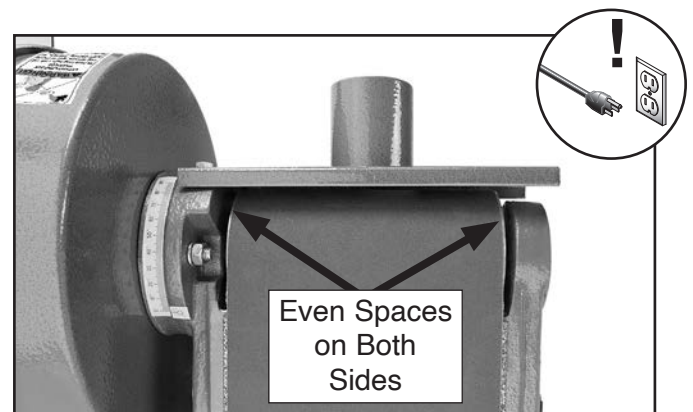

Figure 47. Example of sanding belt centered on main roller.
4. Adjust the tracking with the tracking control knob and continue to rotate the belt by hand until the sanding belt is centered on the main roller, as shown in **Figure 47**.
5. Loosen the lock nut on the tracking control knob, and carefully adjust the tracking in small increments until the sanding belt remains centered on the main roller (see **Figure 47, Page 28**).